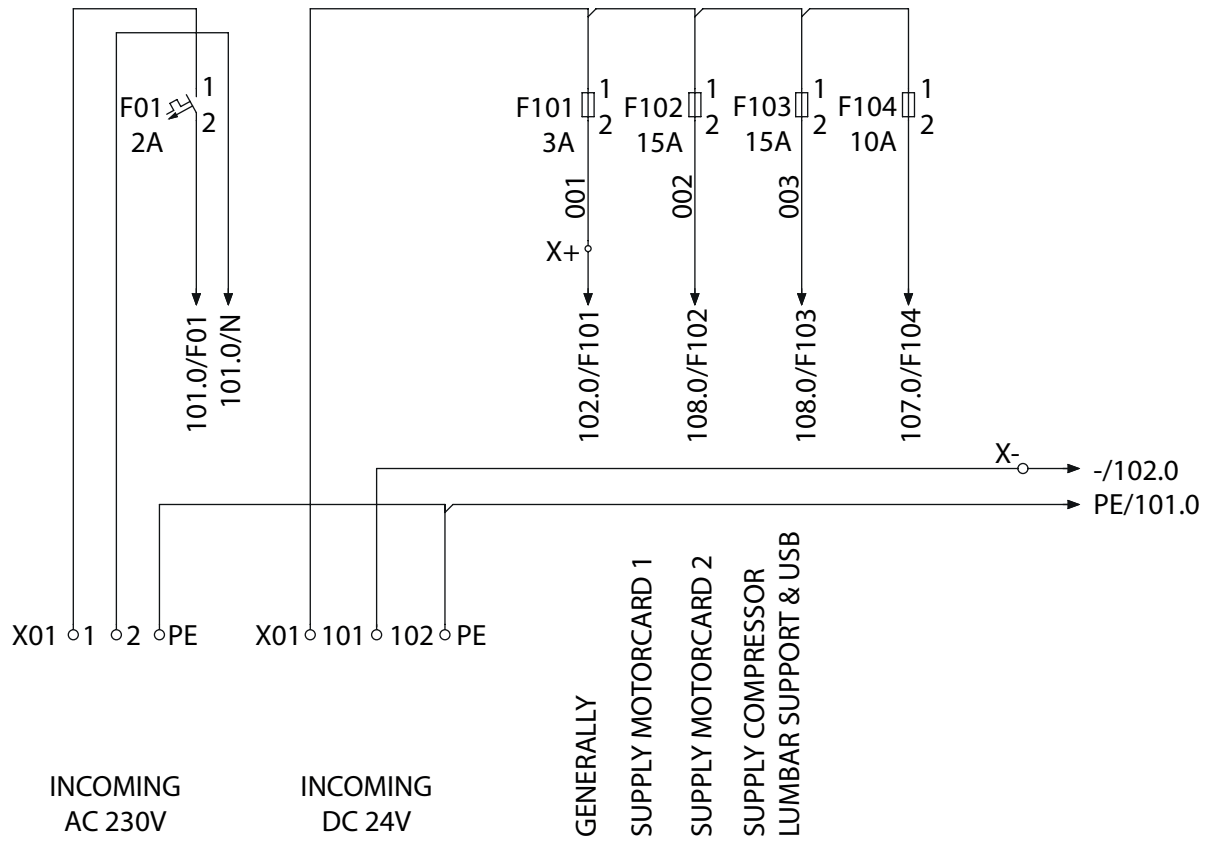

Figure 10. Connection diagram
5. Connect the connecting wires to the intended terminals or plugs/sockets as per the connection diagram (Figure 10 "Connection diagram"), the related circuit diagrams (see chapter 11. "Reference documents", page 71) and the requirements of the operating organization. Make sure all wires are laid without kinks or points where they can chafe.
6. Close the switch cabinet (20) using the related key (20.1).